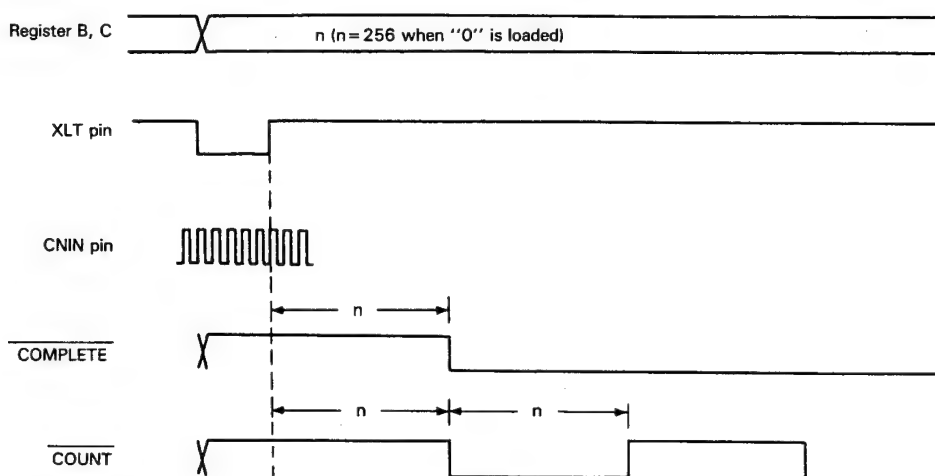

Fig. 2 Tracking counter timing chart
The tracking counter timing chart is shown in Fig. 2.
- (1) COMPLETE : Address (see note) is "B"; Shown in Fig. 2.
- (2) COUNT : Address (see note) is "C"; Shown in Fig. 2.
- (3) $PW \geq 64$: Address (see note) is "E"; This signal is of LOW level when the pulse width after bottom hold is over 63, and is of HIGH level otherwise. It is used for detection of a drop in the speed of the spindle motor after braking and so on.